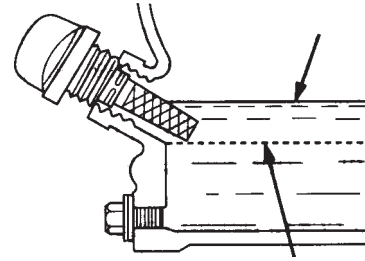

Figure 8. Engine Oil Dipstick (Oil Level)
4. If the oil level is low (Figure 8), fill to the edge of the oil filler hole with the recommended oil type (Table 4). Maximum oil capacity is 1.16 quarts (1.1 liters)